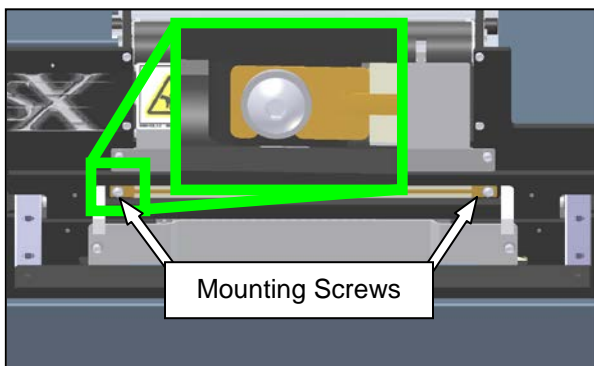

Figure 3-337. Seal Wire Mounting Screws
4. Remove the two mounting screws for the seal wire. Once the seal wire is free of the machine, remove the seal wire changing tools (Figure 3-337).